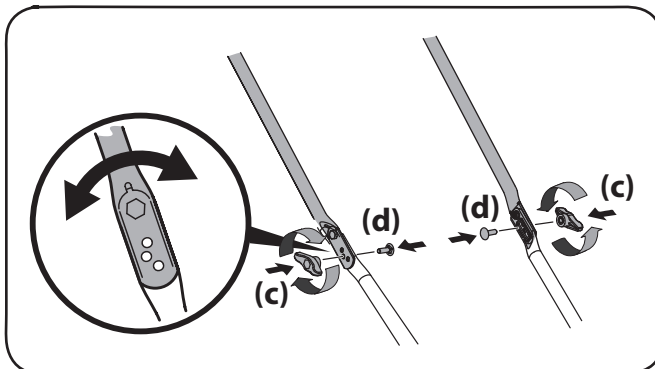

Figure 3-2
3. Move the upper handle into one of three positions by pivoting it forward or rearward. Secure the upper handle to the lower handles using the wing knobs (c) and carriage bolts (d). See Figure 3-2.